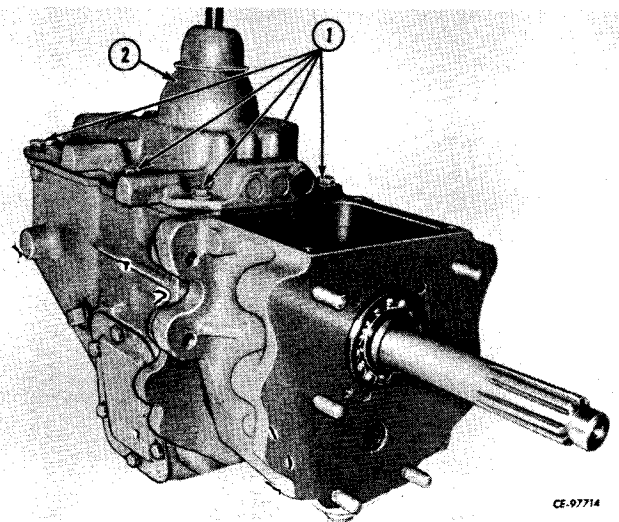

Figure 4-20
Remove cap screws (1, Fig. 4-20) and washers and remove transmission control housing (2).